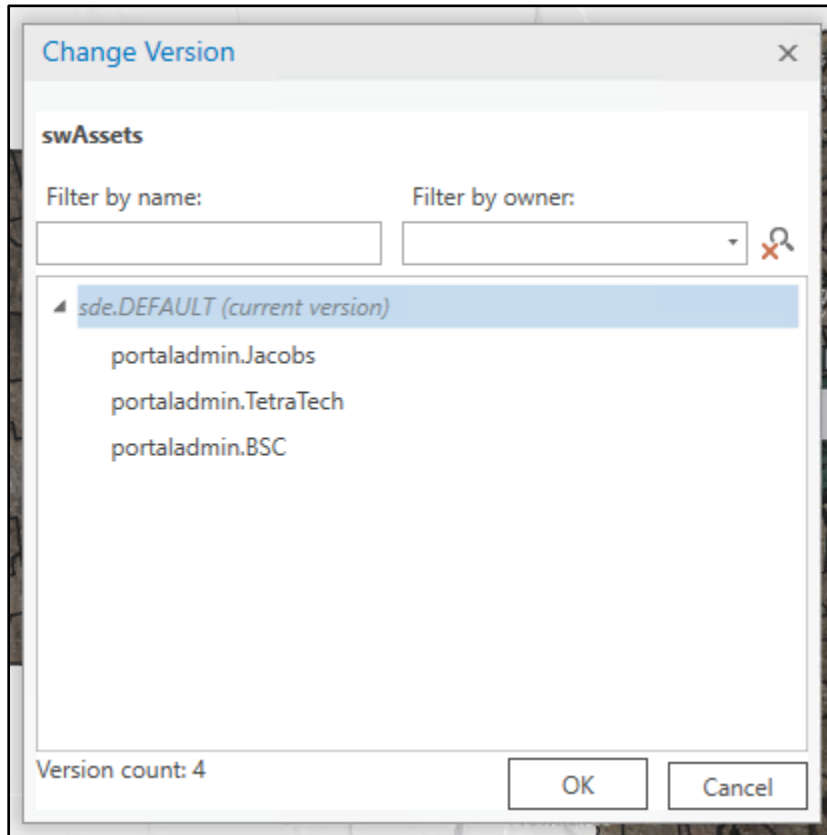

Figure 9
12. Select the database version assigned to you and click OK (Figure 9). It may take a few minutes to switch. In the Contents pane, confirm the data source for the stormwater asset layers updated to the name of the version you selected. Save your ArcGIS Pro Project.